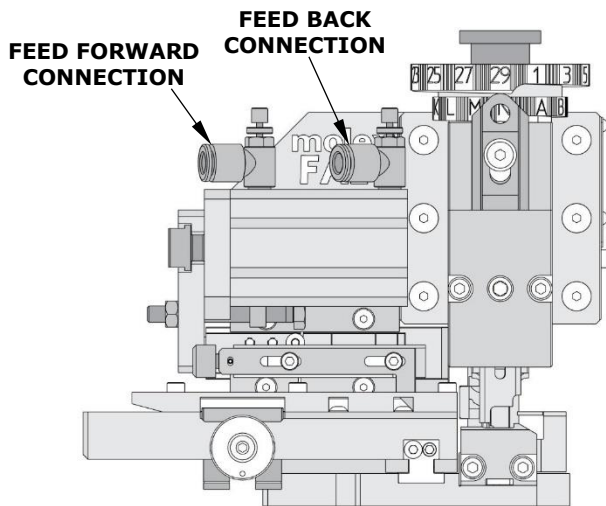

Figure 6
- Pneumatic tubes must be connected as shown in Figure 6. Tubes are typically connected so the terminal feed is forward when the applicator ram is up.